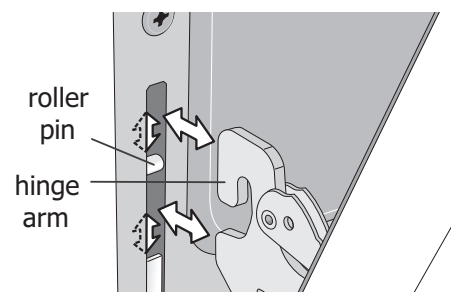

Figure 14: Remove (and replace) door
4. Pull the bottom of the door toward you while rotating the top of the door toward the appliance to completely disengage the hinge arm from the roller pins. (Figure 14).